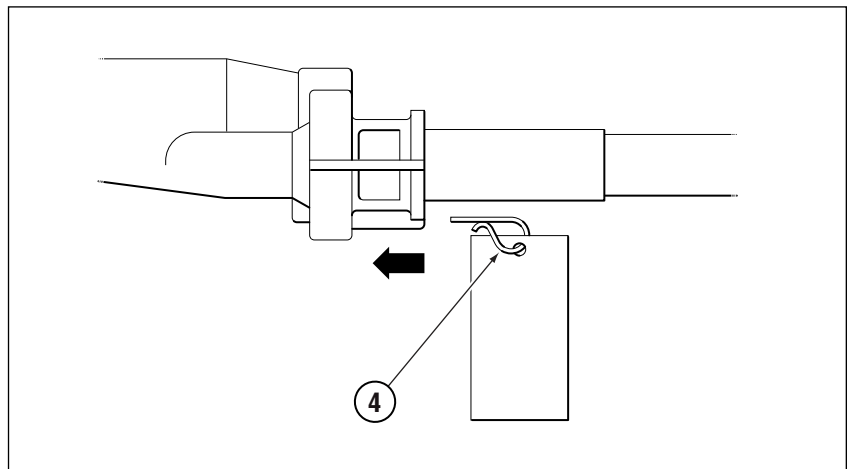

Figure 3.
**STEP 3.** Replace the pin as shown in Figure 3, making sure that it is fully seated. DO NOT REMOVE TAG FROM PIN. This tag must be left in place for vessel safety during future steering maintenance.
To remove the cable from the helm pull pin (Item 4, figure 3) and follow the instructions on the tag pictured below.